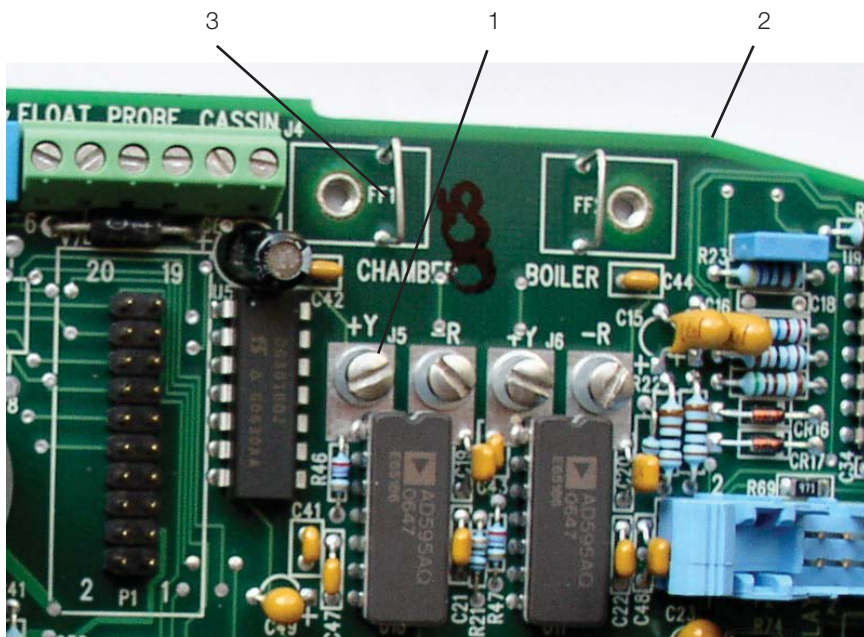

Figure 3
To remove the probe bracket assembly, proceed as follows (see Figures 3, 4 and 5):
| 3. Flag terminal (See Figure 3) | 15. Screws for item 16 | 23. Cap screws with flat washers |